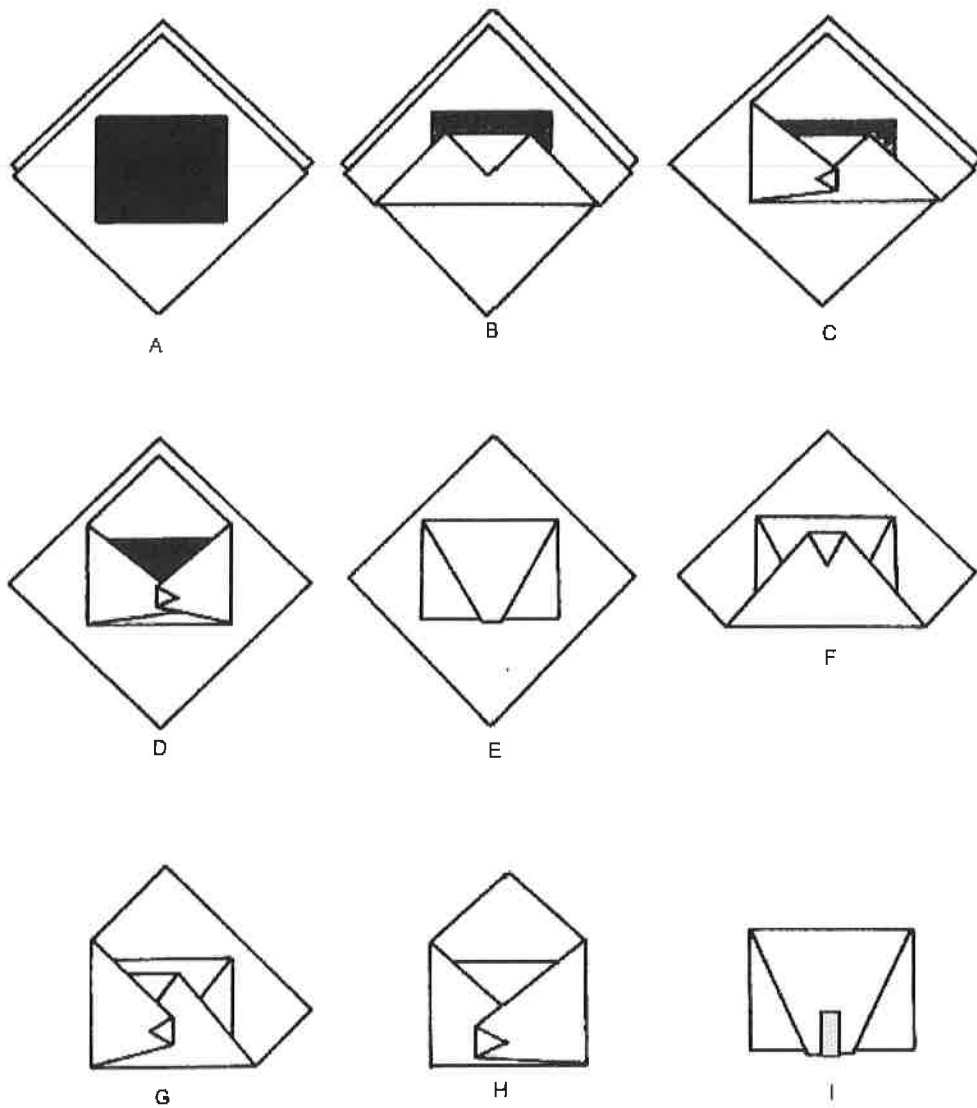

Figure 7-2: Double-wrapping: Envelope fold
- Wrap utensils sequentially in two wrappers (refer to Figure 7-2).